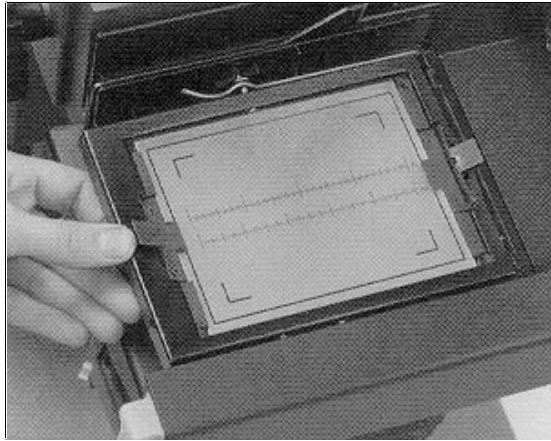

Figure 2-30. Attaching Ground Glass
- b. Slide the ground glass frame into the camera head from the left (figure 2-30). Slide it all the way in, so that the two retainer pins on the frame engage securely in the two spring loops on the camera head.